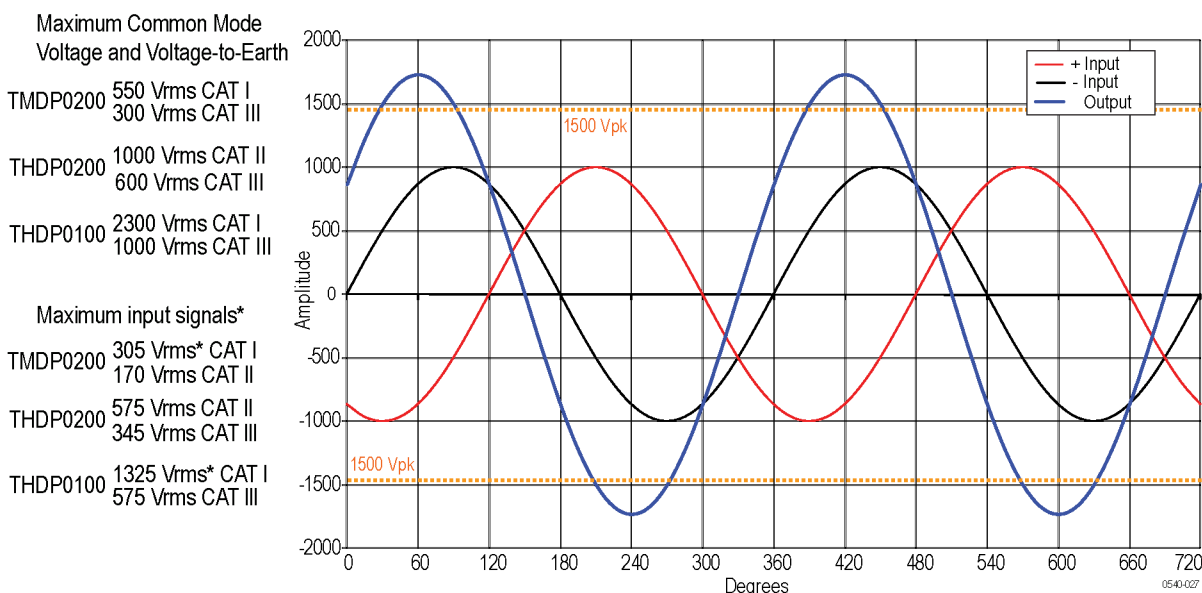

**Figure 3: Measuring two equal-amplitude waveforms that are 180 degrees out of phase**
**Example 1.** Consider a case where you need to measure two sinusoidal waveforms that are 180° out of phase with each other, each with an amplitude of 1000 Vpk with no DC offset (centered at 0 V). (See Figure 3.)